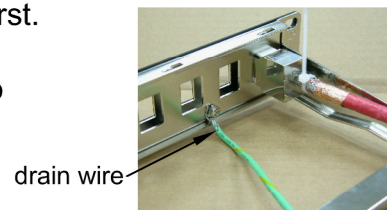

FIGURE 3
- C. Screw drain wire (NOT INCLUDED) to the Patch Panel first. Align the tongue on one side of the wire minder with the corresponding groove on the Patch Panel and insert it into the groove- see figure 3.